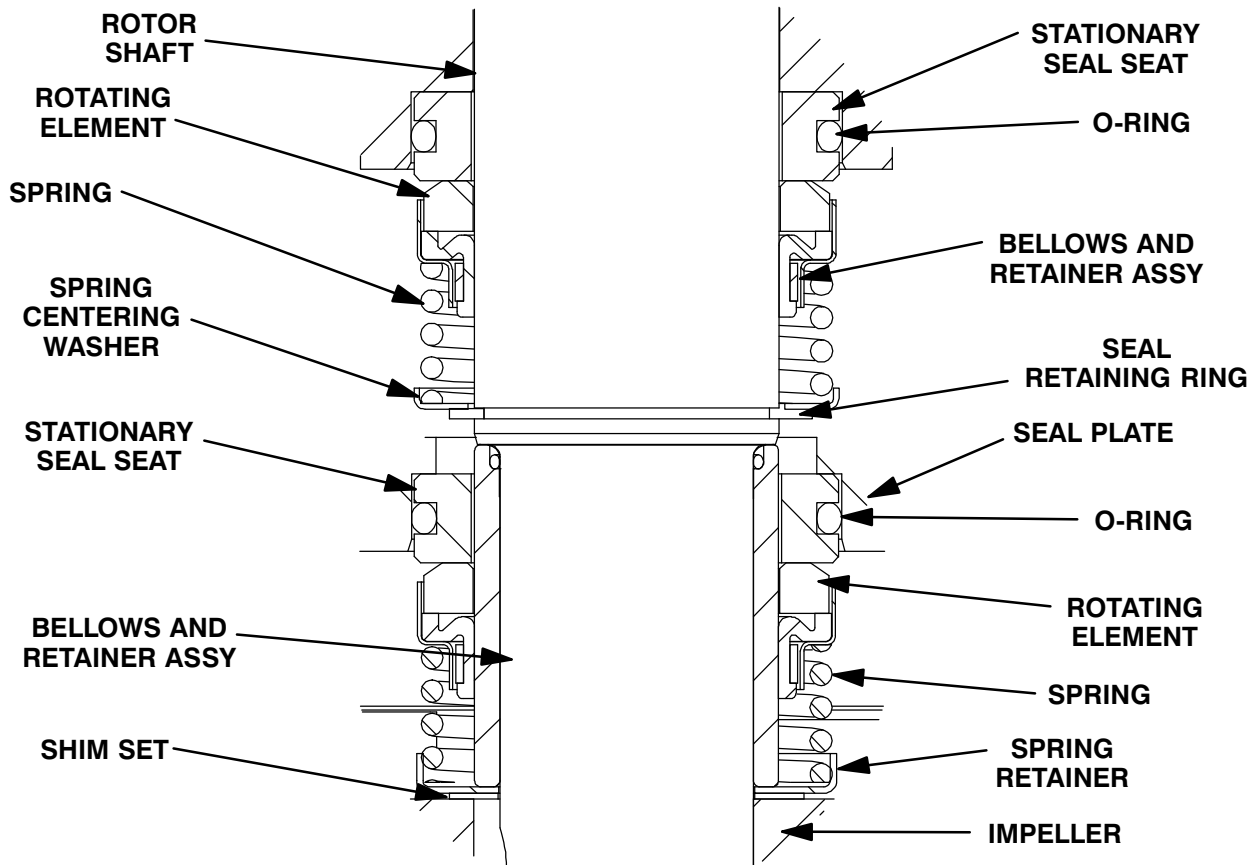

Figure E-3. Upper And Lower Seal Assemblies
Install the shaft seals as illustrated in Figure E-3.
Install the seal spring over the bellows retainer and install the spring retainer (21). See Figure E-3 for proper order of seal assembly.